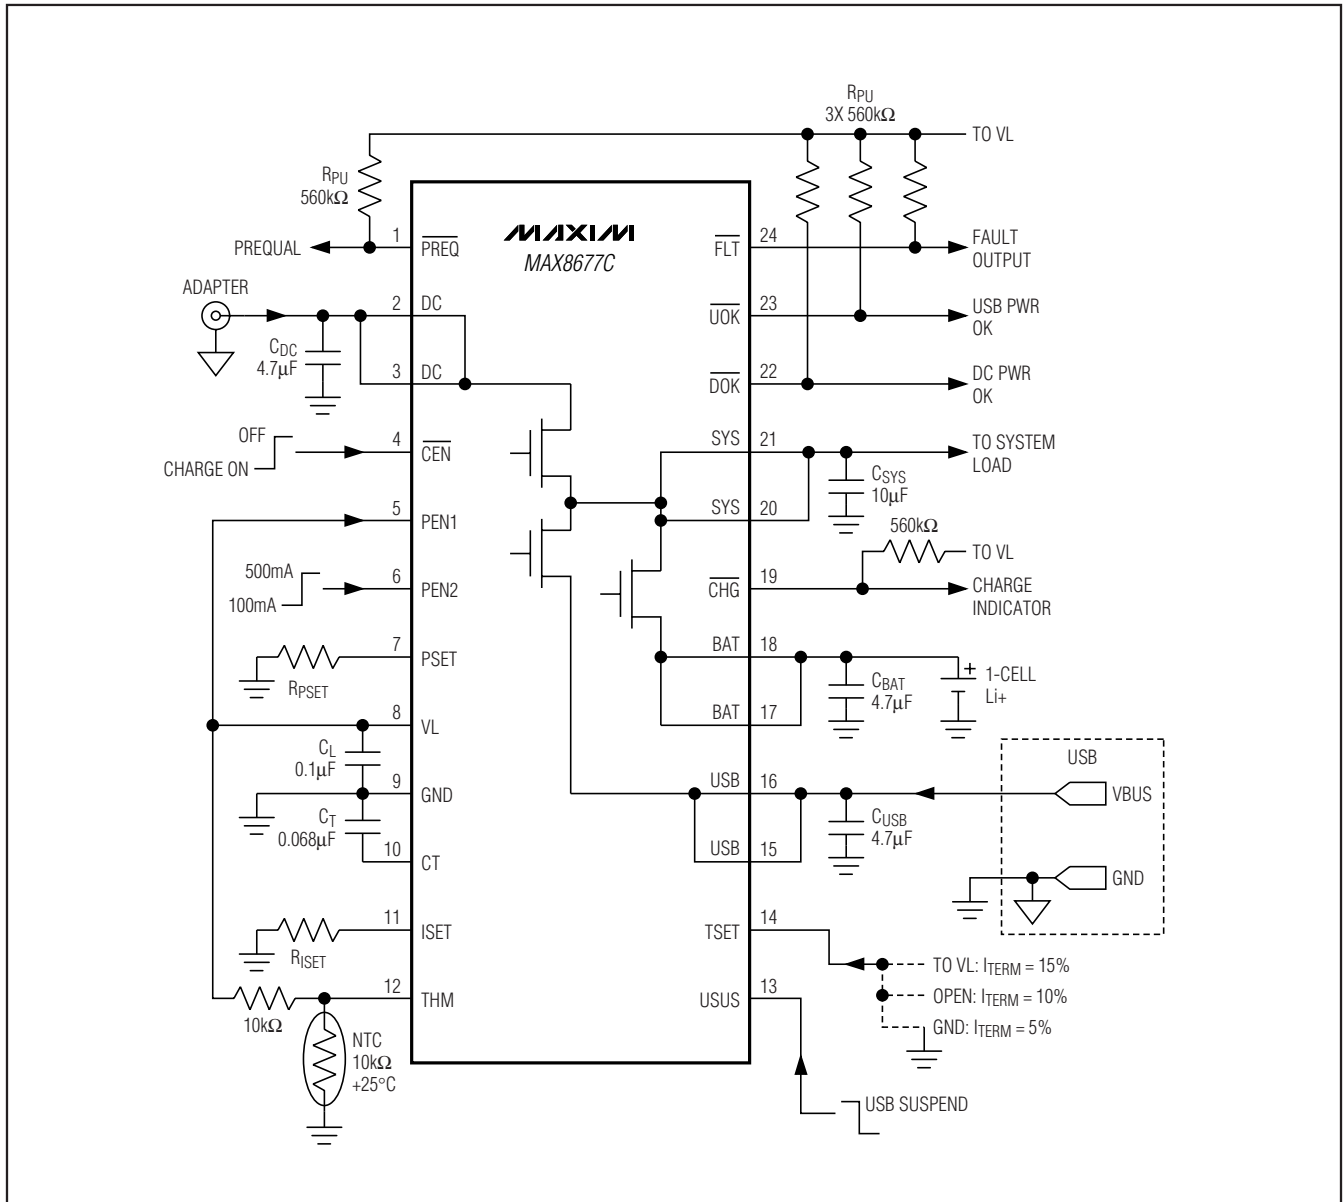
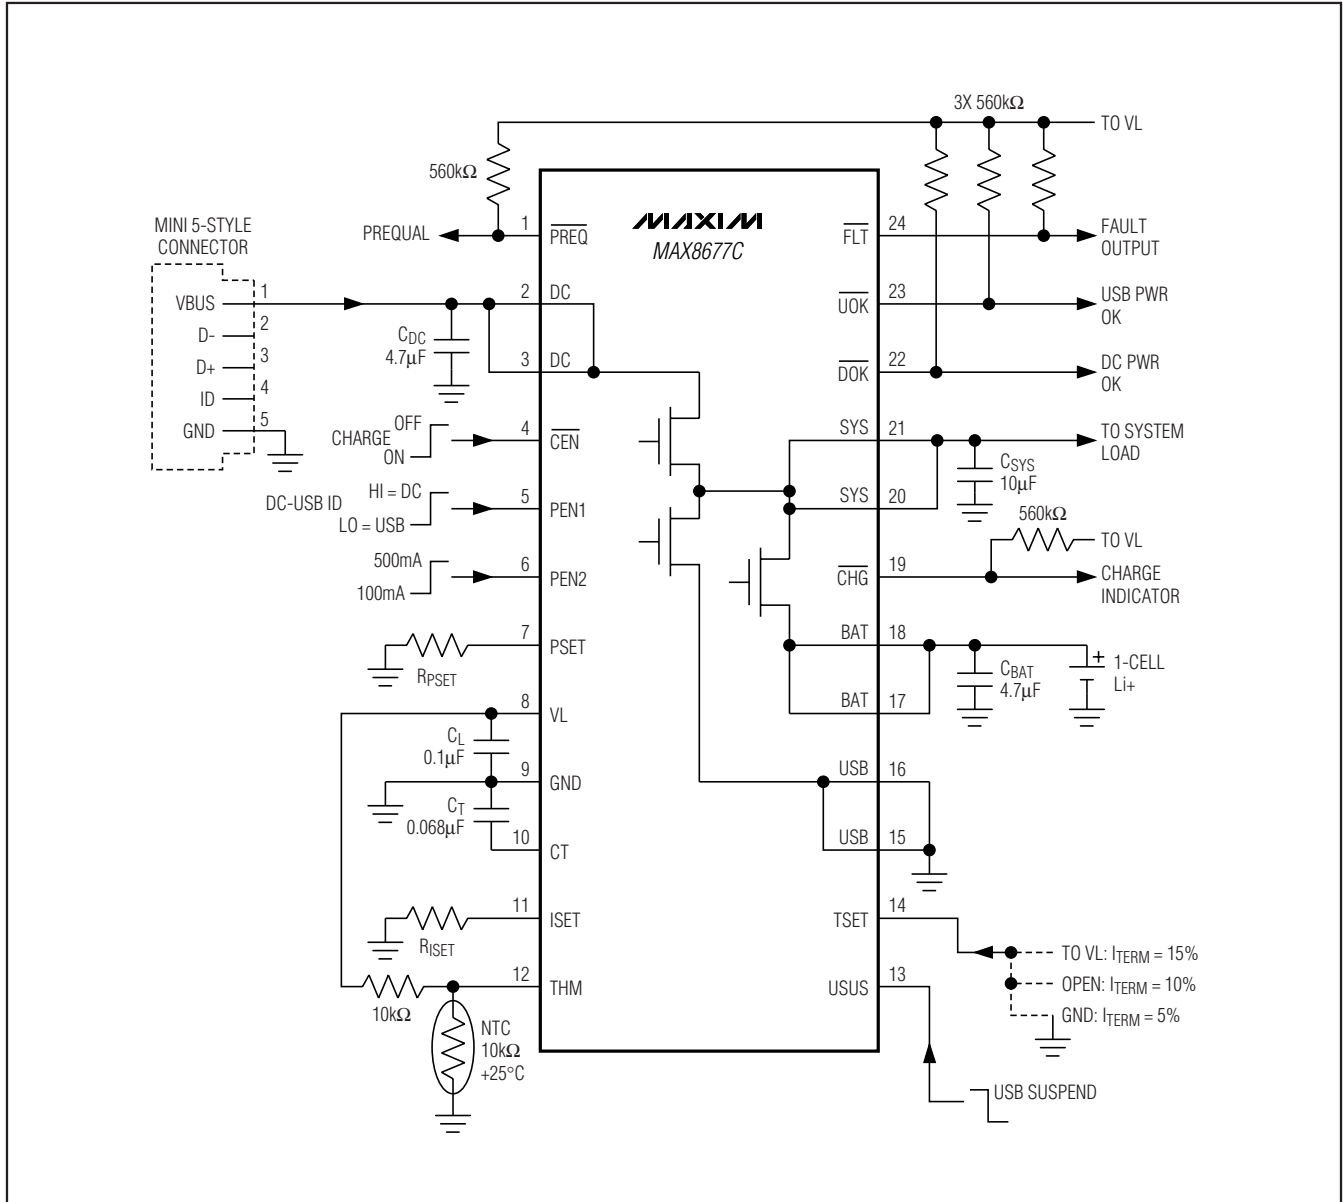

Figure 2. Typical Application Circuit Using Separate DC and USB Connectors
Figure 3. Typical Application Circuit Using Mini 5-Style Connector or Other DC/USB Common Connector
for two-input or single-input operation. Figure 2 is the typical application circuit using separate DC and USB connectors. Figure 3 is the typical application circuit using a Mini 5-style connector or other DC/USB common connector.
**Table 1. External Components List for Figures 2 and 3**